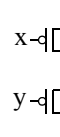

Figure 2.77
- 2.7 Describe the behavior of the CMOS transistor circuit shown in Figure 2.77, clearly indicating when the transistor circuit conducts.